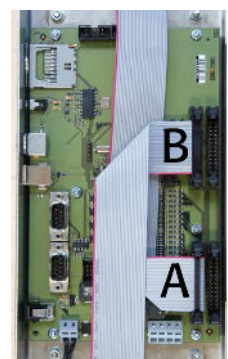

Fig. 3.1-29
Step 23: Attach the connectors of the ribbon cables "A" and "B" with the control unit in the correct frame part as shown in (**Fig. 3.1-29**) .